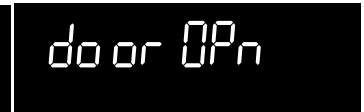

Fig. 4
- Once the oven has cooled down for about 1 hour and "**Hot**" is no longer displayed the "**door OPn**" message should appear (Fig. 4). When this message turns off the oven door may be opened. Use **caution** and avoid possible burns when opening the door after the self-cleaning cycle has completed. The oven may still be **VERY HOT**.
- Allow enough time for the oven to cool and for the "**door OPn**" message to appear (Fig. 4). When this message turns off the oven door may be opened. If a self-clean cycle was active, then stopped or interrupted by power failure, it may be necessary to run a self-clean cycle again to thoroughly clean the oven. Please be aware that you may need to allow up to four hours before self-clean can be started again.